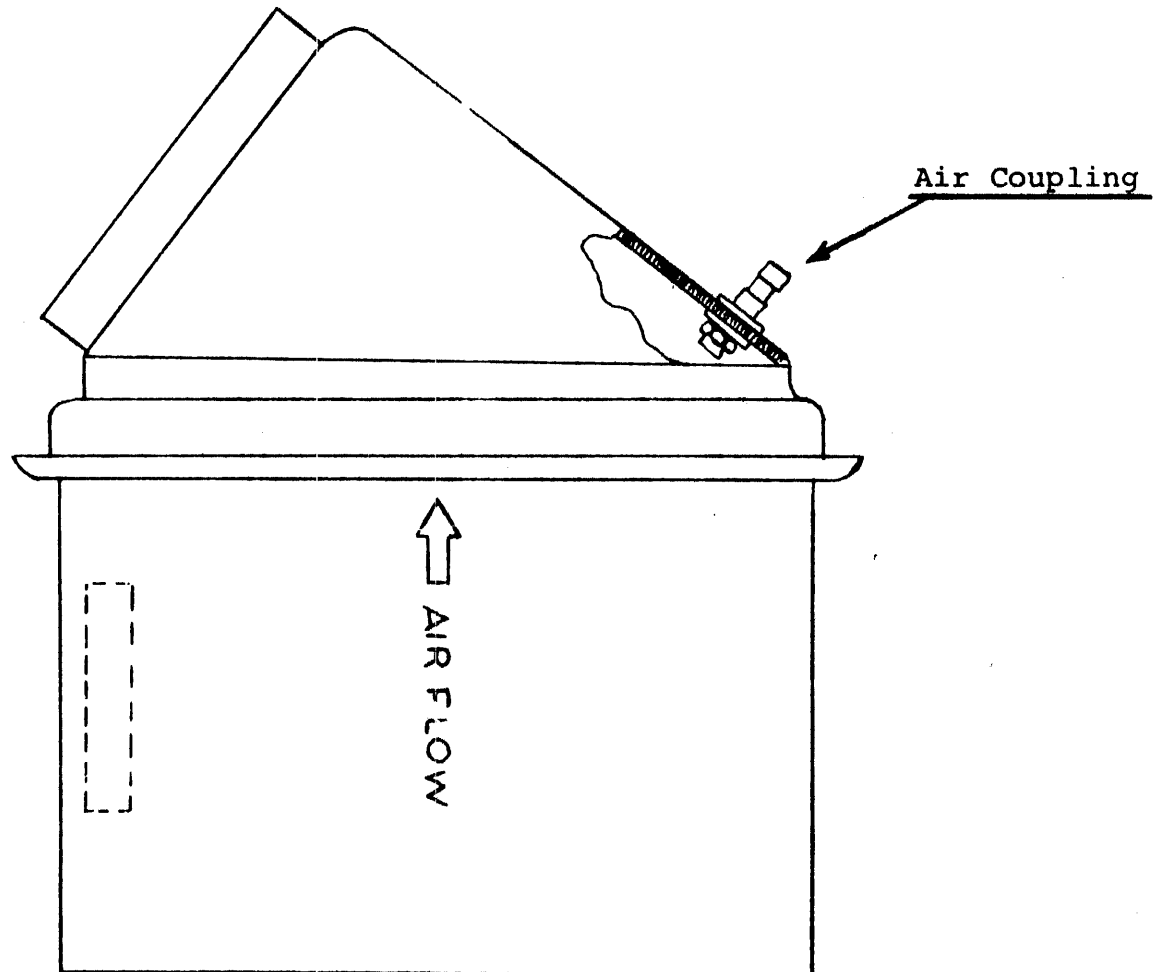

Figure 3. Model 214 Filter Assembly - Top View.
- b. Check the output of the filter assembly with the portable gauge (see Figure 3).